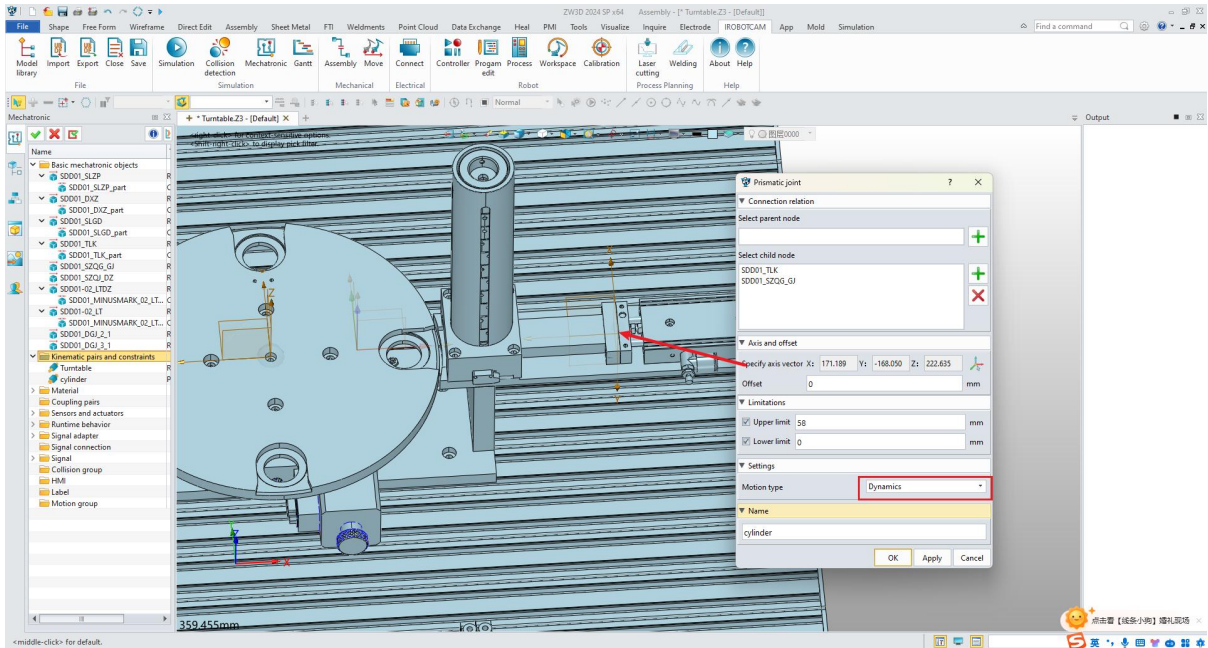

Figure 13-20: Prismatic joint
- Create a prismatic joint (Cylinder_J1) for the cylinder and define the axis, offset, limits, and motion type.(Figure 13-20)